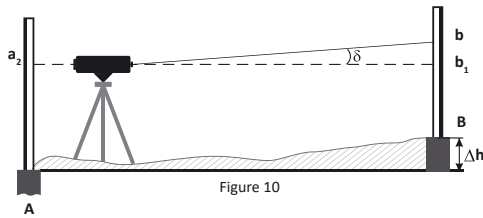

Figure 10
b) Move the instrument and set it at distance 1-2 m from the staff A (Figure 10). Level the instrument and take the readings  $a_2$  and  $b_2$  on the staffs A and B accordingly. If  $|(a_2 - b_2) - (a_1 - b_1)| < 3$  mm, further adjustment is not needed.